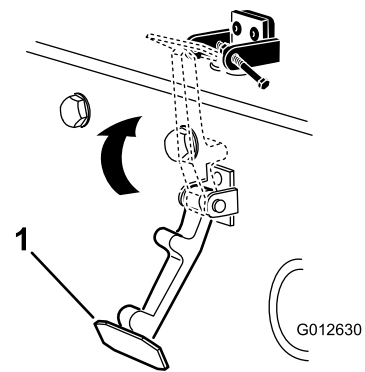

Figure 14
6. Hook the latch onto the hood-latch bracket (Figure 14).